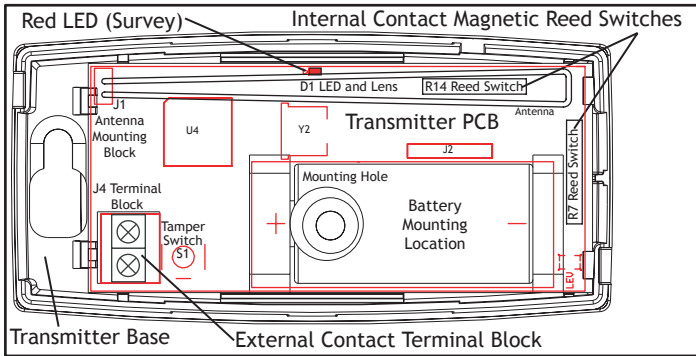

Figure 5: Internal and External Contact Points
3. Place one supplied screw into the mounting hole location as shown in Figure 5 or use double-sided tape and secure the housing to the surface.
3. Place the 3.0V lithium battery in the holder as shown in Figure 5 and press into place.